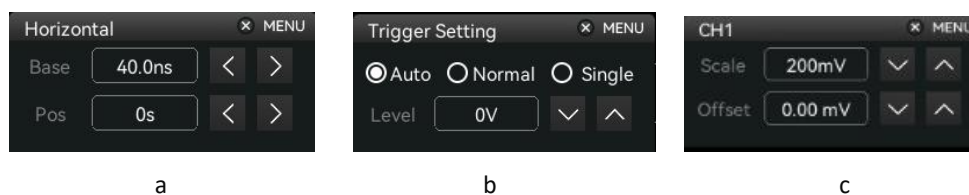

Figure 4-7
- ① Trigger status identification: TRIGED (has been triggered), AUTO, READY, STOP, and ROLL.
- ② Time base scale: Indicates the amount of time represented by one grid, which can be adjusted by SCALE knob on the horizontal control area, a time base scale will pop up on the screen when the time base scale changes. Tap time base scale to pop out horizontal interface as show in Figure 4-7(a), time base scale can change by using numeric keypad, ,  and SCALE knob.
- ③ Sampling rate/storage depth: Display sampling rate and storage depth of the current scale.
- ④ Waveform indicator
- ⑤ Waveform trigger position: Display the trigger position of the current waveform.
- ⑥ Horizontal displacement: Display the horizontal displacement value of waveform. Change this parameter by using POSITION knob on horizontal control area. Press POSITION knob on horizontal control area to make horizontal displacement value turn to 0. Tap time base scale to pop out horizontal interface as show in Figure 4-7(a), horizontal displacement value can change by using numeric keypad, ,  and POSITION knob.
- ⑦ Trigger status: Display the current trigger source, type, slope, coupling and level status.
- f. Tap trigger status area to pop out trigger setting interface as shown in Figure 4-7(b). Trigger level value and trigger coupling mode can change by using numeric keypad, ,  and LEVEL knob.
- ⑧ Operation menu: Display the current operation menu, press the corresponding key to change the menu. Press F1 ~ F5 to select the corresponding submenu.
- ⑨ Set year, month, date and time in Utility menu or tap this area to pop out time setting interface to setup.
- ⑩ USB DEVICE icon: This icon will appear when USB DEVICE connect with the instrument.
- ⑪ Pop-up window: Pop-up window will display the current volts/div scale and time base scale when volts/div scale and time base scale changes. And the window only displays for 3s.
- ⑫ CH1 vertical icon: Display activated state, channel coupling, bandwidth limit, vertical scale and probe attenuation factor of CH1.
- Tap vertical state area to pop out channel 1 interface as shown in Figure 4-7(c) Volts/div scale and vertical displacement value can be changed by using numeric keypad, ,  and vertical SCALE knob and vertical Position knob.
- ⑬ HOME Menu: HOME menu is in the left corner of the screen, which includes cursor, mathematical operation, spectrum analysis, recording waveform, pass/fail test, reference waveform, decoding, bode diagram, drawing rectangle, frequency meter, voltmeter and help shortcut menu.